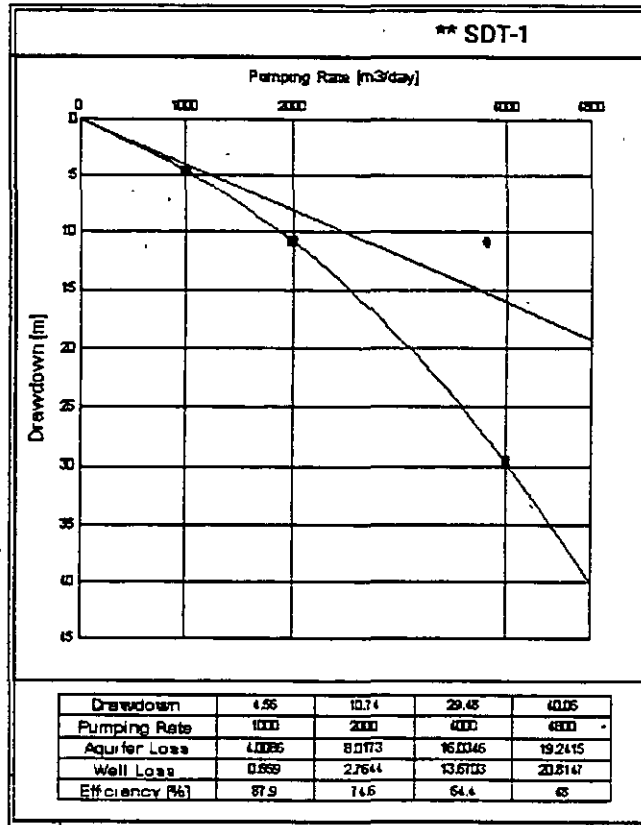

Figure 11-13
14. Select **Display**. The display will look as shown in Figure 11-13.